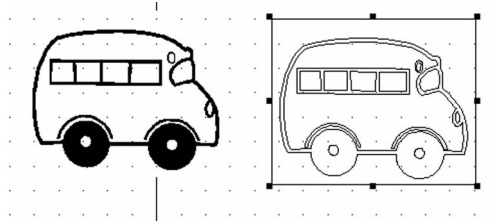

Figure 101
- 1 Delete the original bitmap. To do so, click the **Select Elements** tool, click on the original drawing, and then press the `DELETE` key on your keyboard. The scanned image remains on your screen. See figure 101.